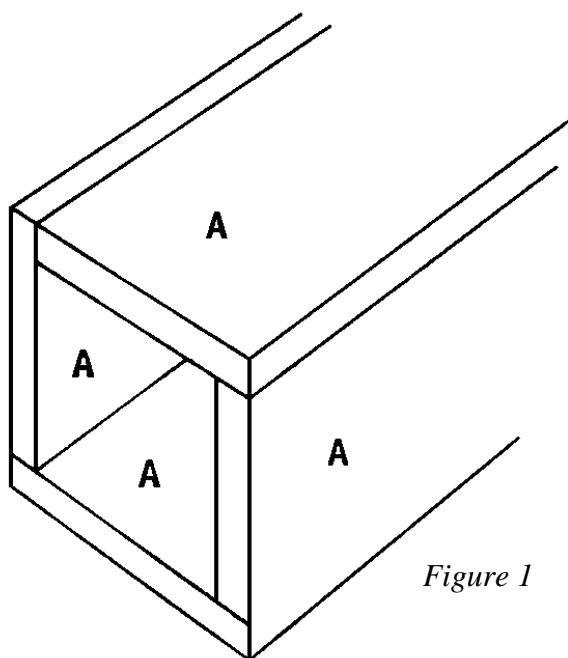

Figure 1
1. Cut 16 Poster Sides (A) from 1 x 6 pine, each measuring 84 inches.
2. Assemble four Poster Sides (A), overlapping each piece in rotation as shown in *Figure 1*. With the four Sides (A) in position the leg measures 6-1/4" wide on all sides. Apply glue to the meeting surfaces and nail all four sides (A) along their entire length. Use 1-1/2" finishing nails, spacing them about 6 inches apart.